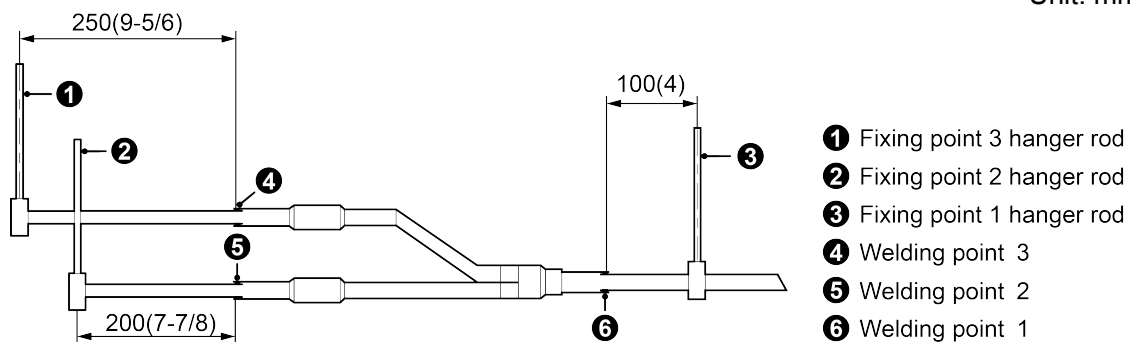

Fig.4.26
- (3) There must be three fixing point for both horizontal and vertical installation of the Y-type manifold. See Fig.4.26.